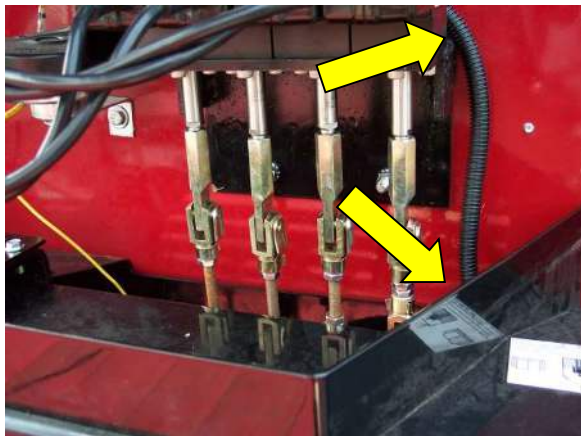

FIG. 8
1. Beginning at the lower access panel, feed the main harness with the 6 and 12-position connectors first, behind the valve assembly, around the back of the actuator assembly, and up toward the arm (FIG. 8 & 9)